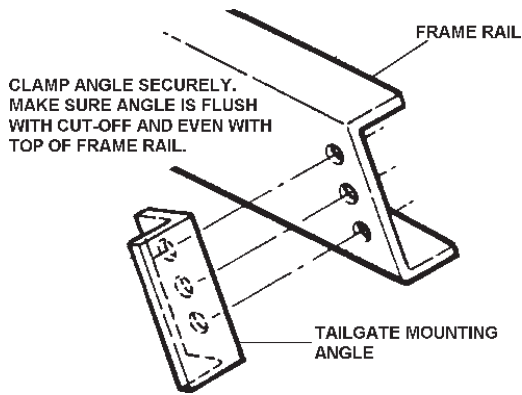

FIGURE 7.4
- (k) Clamp tailgate mounting angles to frame rails with predrilled holes to frame rails and flush with the 15° cut. Using the predrilled holes as a template, drill three (3) 29/32" holes in frame rails and secure angles with 7/8" dia. bolts and lock nuts to frame rails. See Figure 7.4.